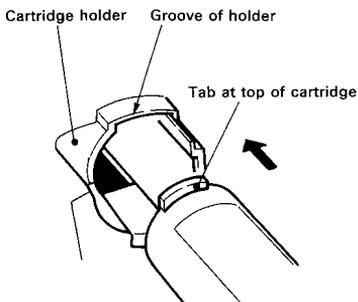

Figure 1-20
- 3) Make sure that the toner of the new cartridge is of the right color, and shake the cartridge end-to-end about 10 times. Set the cartridge in the holder, aligning the tab at the tip of the cartridge with the groove on the holder. Push the cartridge in the holder along the groove while peeling the seal with care as in Figure 1-20.